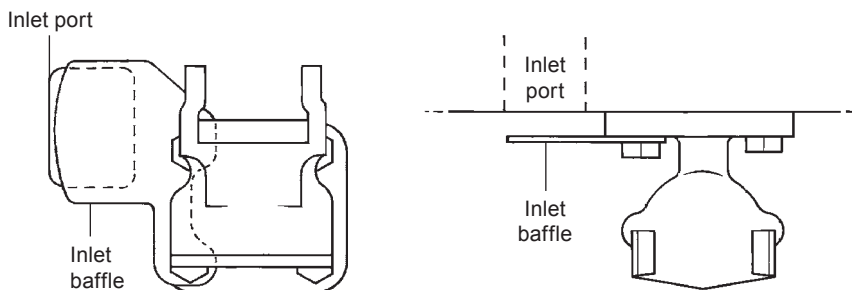

Fig. 10
- Unscrew the 4 bolts or nuts (7).
- Remove the main valve assembly (5) and gasket (6).
- Fit the new gasket (6) and the main valve assembly (5), including the baffle plate (see page 22, Figures 10 and 11).
- Tighten the bolts or nuts (7) evenly (see Table 1 for recommended tightening torques).